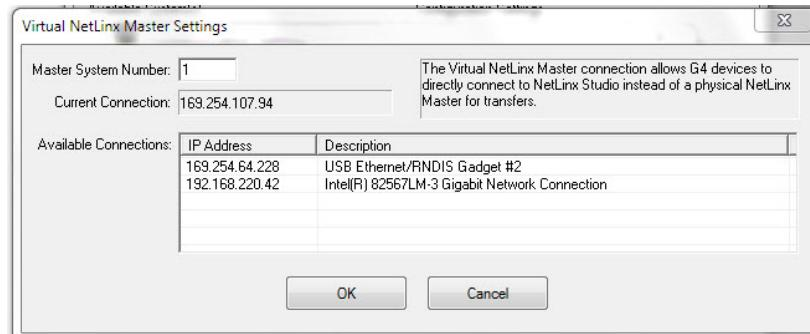

FIG. 37 Virtual NetLinx Master Settings dialog
6. Click the **Edit Settings** button in the *Communications Settings* dialog to open the *Virtual NetLinx Master Settings* dialog (FIG. 37).